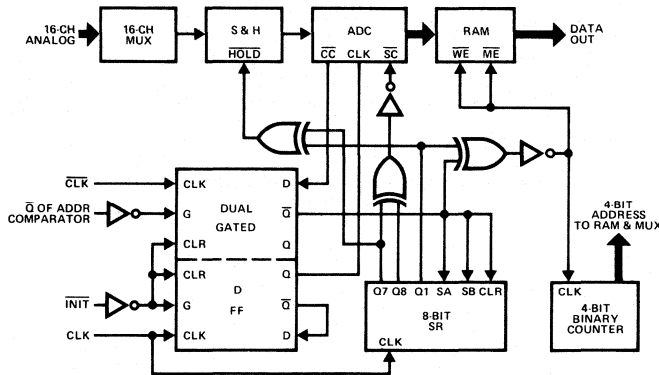
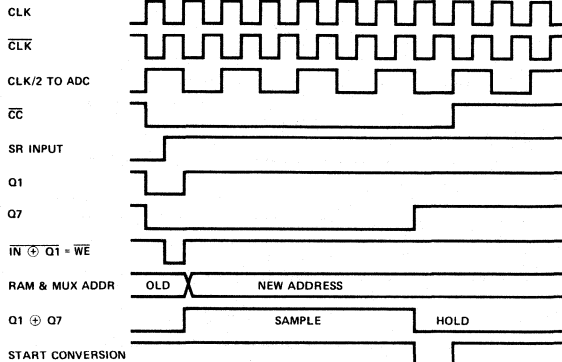

FIGURE 15. Sequencing Logic with SR
FIGURE 16. Timing for S-R Sequencing
An alternate sequencing circuit without one-shot circuits is shown in Figure 15 with timing relationships in Figure 16. It makes use of a shift register and exclusive-OR gates to generate the gates needed to write into memory, sample and hold, and start conversion. The ADC clock is generated at twice the desired clock frequency and divided by 2 in a D flip-flop. In this manner, the minimum gate width is 1/4 of the ADC clock period (620ns in this example). The  $\overline{CC}$  signal is clocked into a D flip-flop with a delay of 620ns. The delayed output clears the shift register (SR) and is clocked into the SR after an additional 620ns delay. An exclusive-OR of the SR input and Q1 output generates a 620ns gate to write data into the RAMs. The trailing edge of this WE gate clocks the  $\div 16$  counter to advance the MUX and RAM address to the next channel. Exclusive-ORing of SR Q1 and Q7 produces an 8.75 $\mu$ s sample gate. (If the acquisition and settling time of the S&H is greater than 8.75 $\mu$ s, additional circuit complexity is required.) Exclusive-ORing of Q7 and Q8 produces a synchronized 1.25 $\mu$ s gate to start the ADC. This circuit may not be the most versatile or elegant for the purpose. For those applications with longer S&H acquisition times or other requirements, some alternate circuit may be designed if that of Figure 15 is unacceptable.